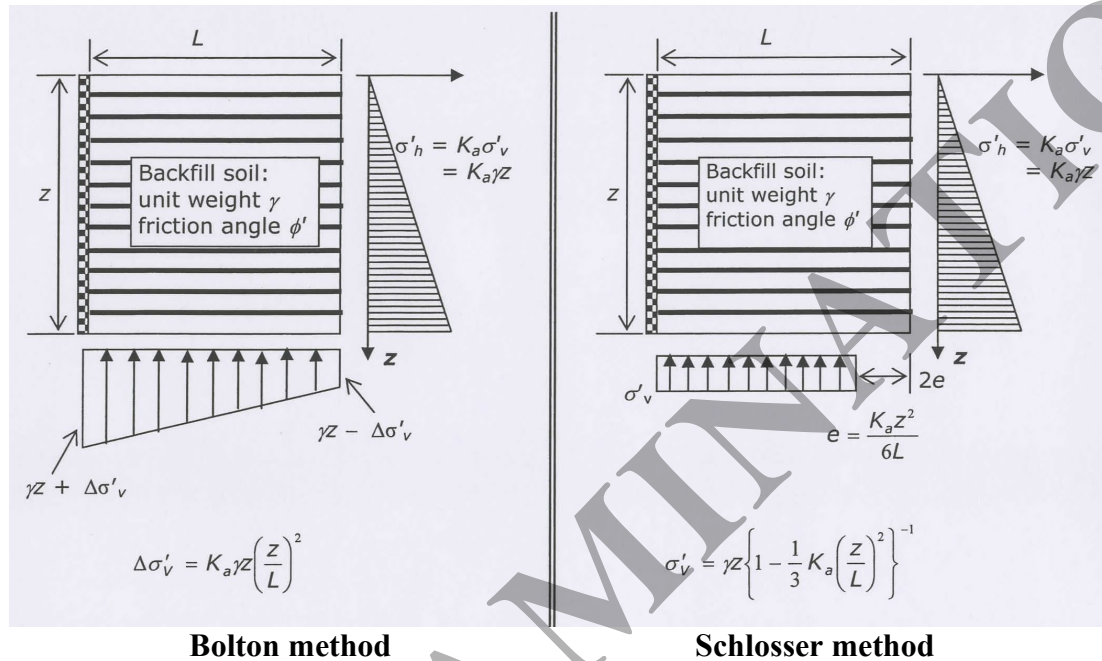

Figure 5
- The vertical stress in a horizontal plane in the reinforced soil wall can be approximated by two methods: (1) Bolton (1977) and (2) Schlosser (1978), which are shown in Figure 5.